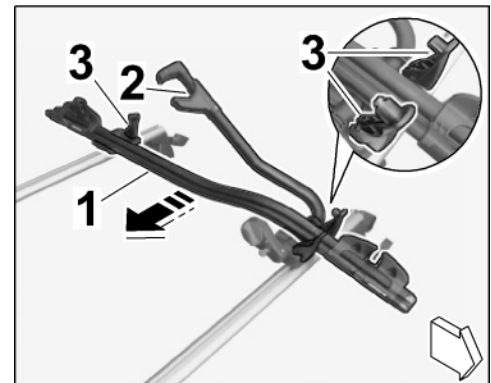

Figure 9
- 4.6 Carefully slide the bicycle rack onto the side of the vehicle on which you want to install the bicycle (the open frame holder (claw) is facing the relevant side of the vehicle (⇒ *Figure 9 -arrow-*)).